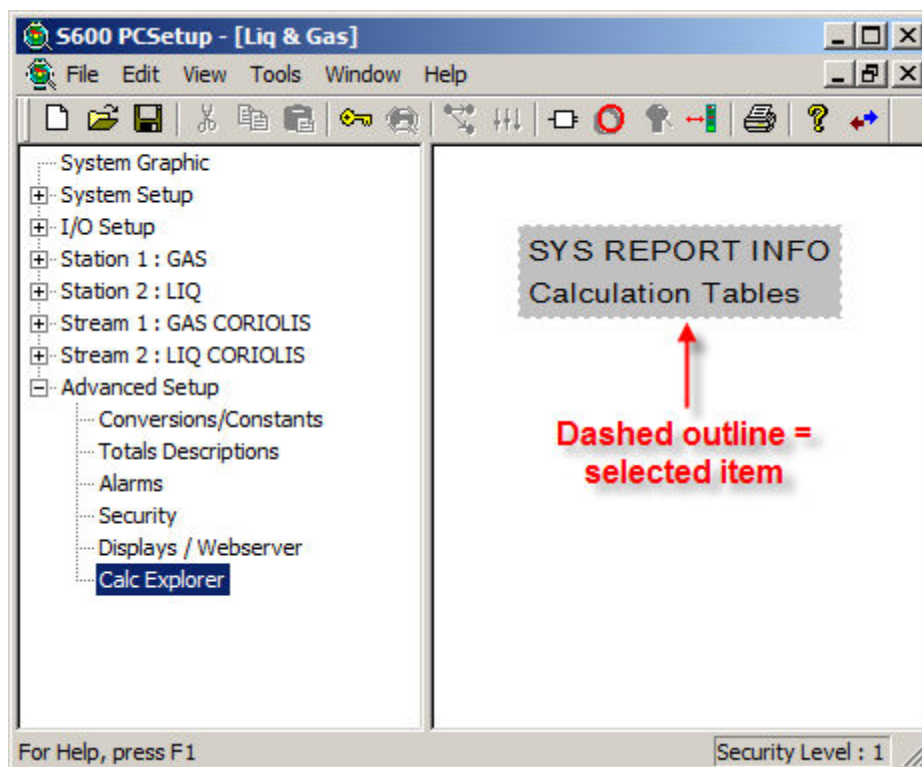

Figure 7-18. Newly Added Item
- When you first add an item, Calc Explorer gives it a dashed (not solid) outline (see Figure 7-18). This indicates that the item is currently selected. When you right-click a selected item, the Calc Explorer menu displays for that item. When you add a second item, that item receives the dashed outline. The previous item now has a solid outline, indicating it is no longer selected.